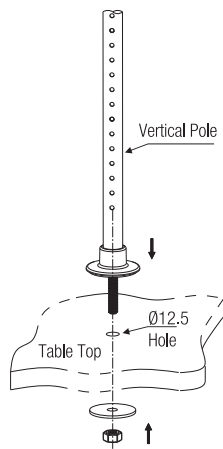

Fig. 1.
2. Fix the vertical pole as shown in Fig. 1.